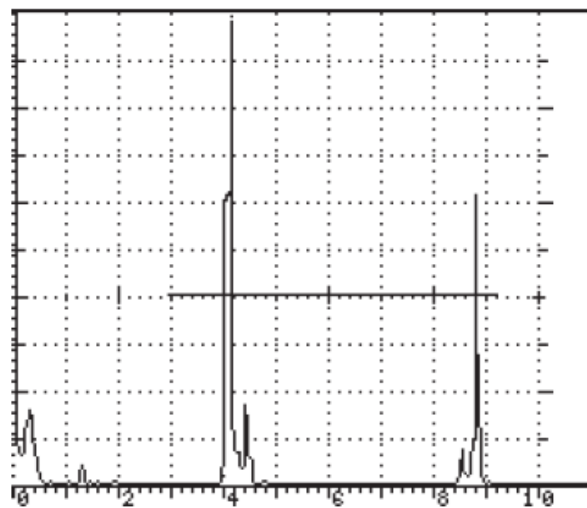

Figure 5-49
- e) Adjust the thinnest (closest) echo by swiveling the transducer to peak out the echo at 4.00 inches, press the THK CAL softkey and rotate the SmartKnob™ until the THK CAL value for CAL PT2 reads 4.00 inches. Press the ENTER key to log this value.(see **Figure 5-49.**)